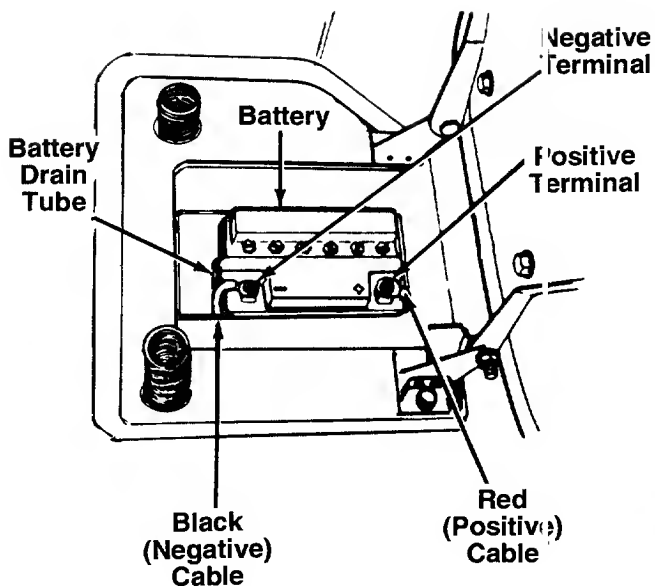

FIGURE 7.
3. Place the battery inside the opening so that the positive terminal is toward the front of the unit. See figure 7. Route the battery drain tube down beside the battery.
4. Remove the hex bolt from the positive (+) terminal. Place the positive cable on the positive terminal. See figure 7. Secure with hex bolt. Be careful not to lose the nut inside the terminal.